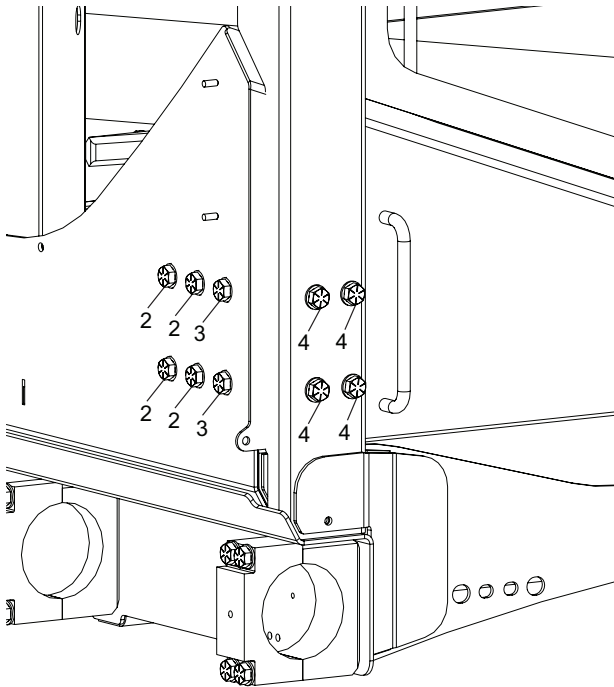
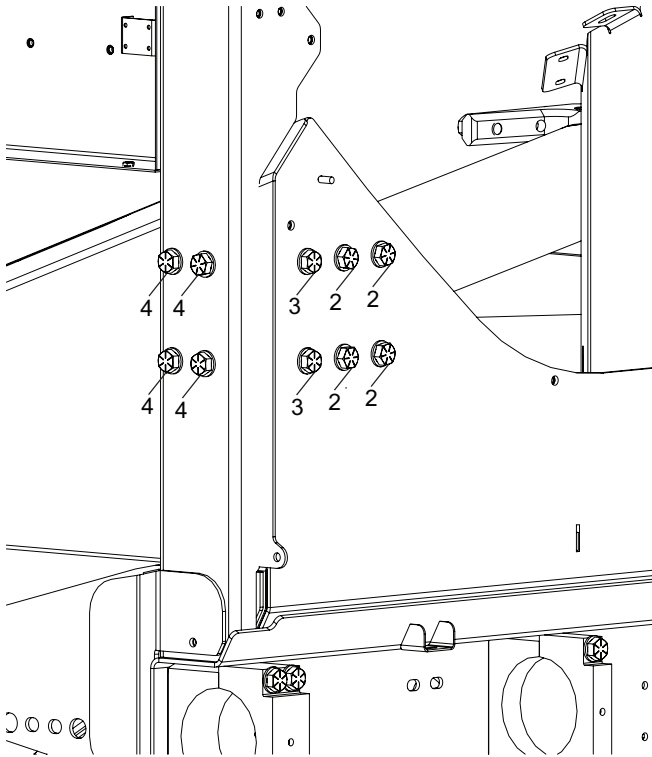

Figure 6
Figure 8
13. Apply Loctite 263 to the correct new bolt (see Figure 6 below for street side or Figure 8 for curb side for parts list of bolts).